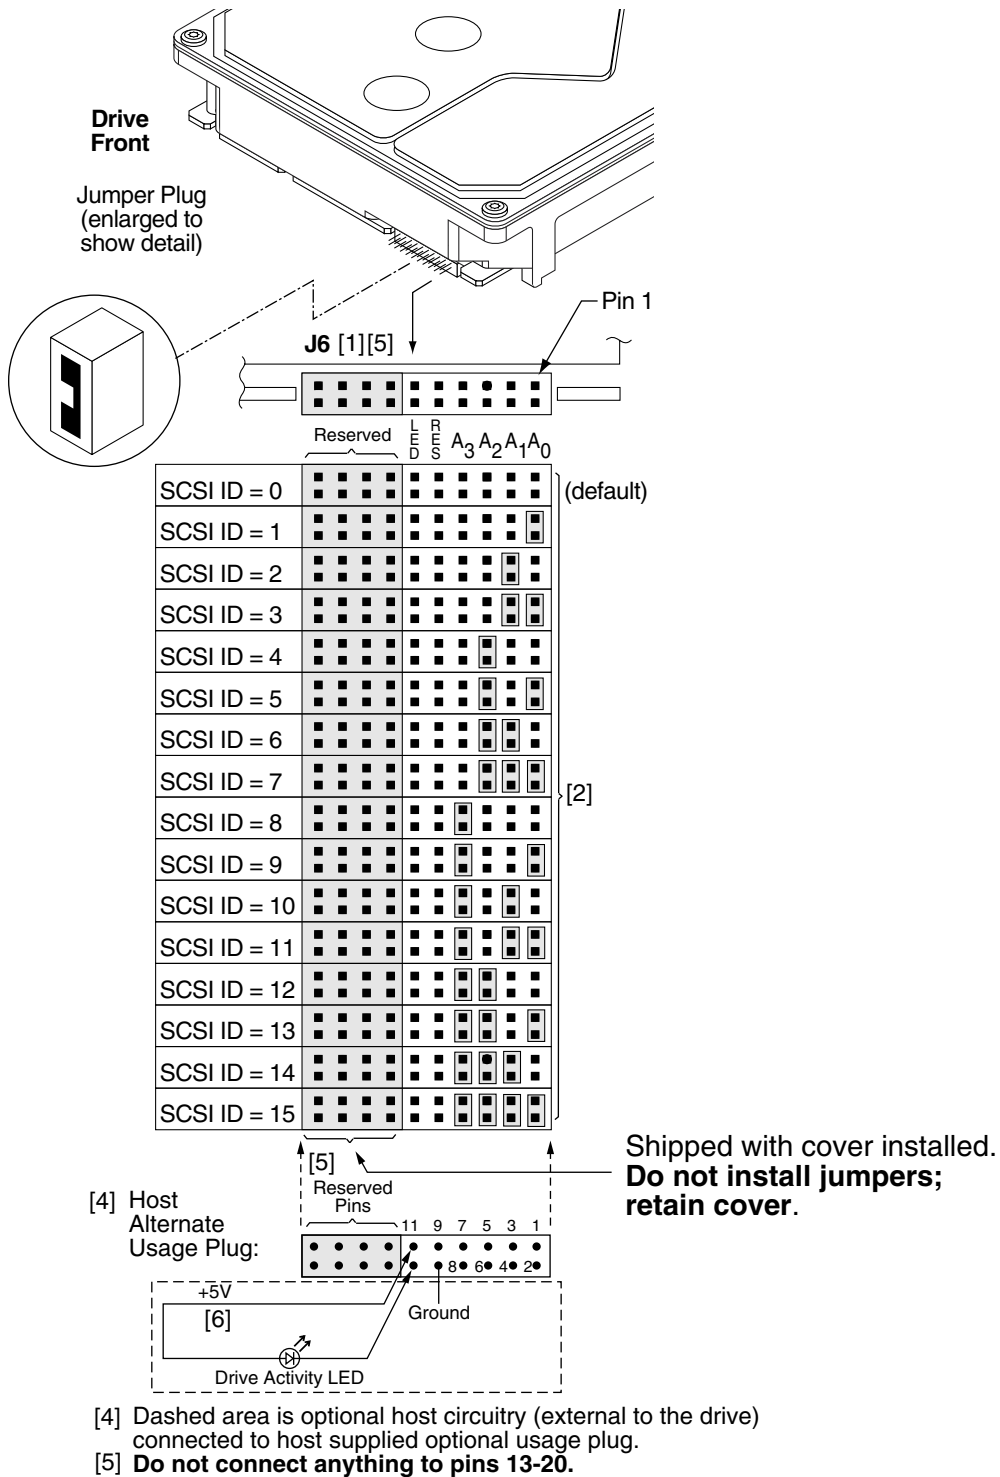
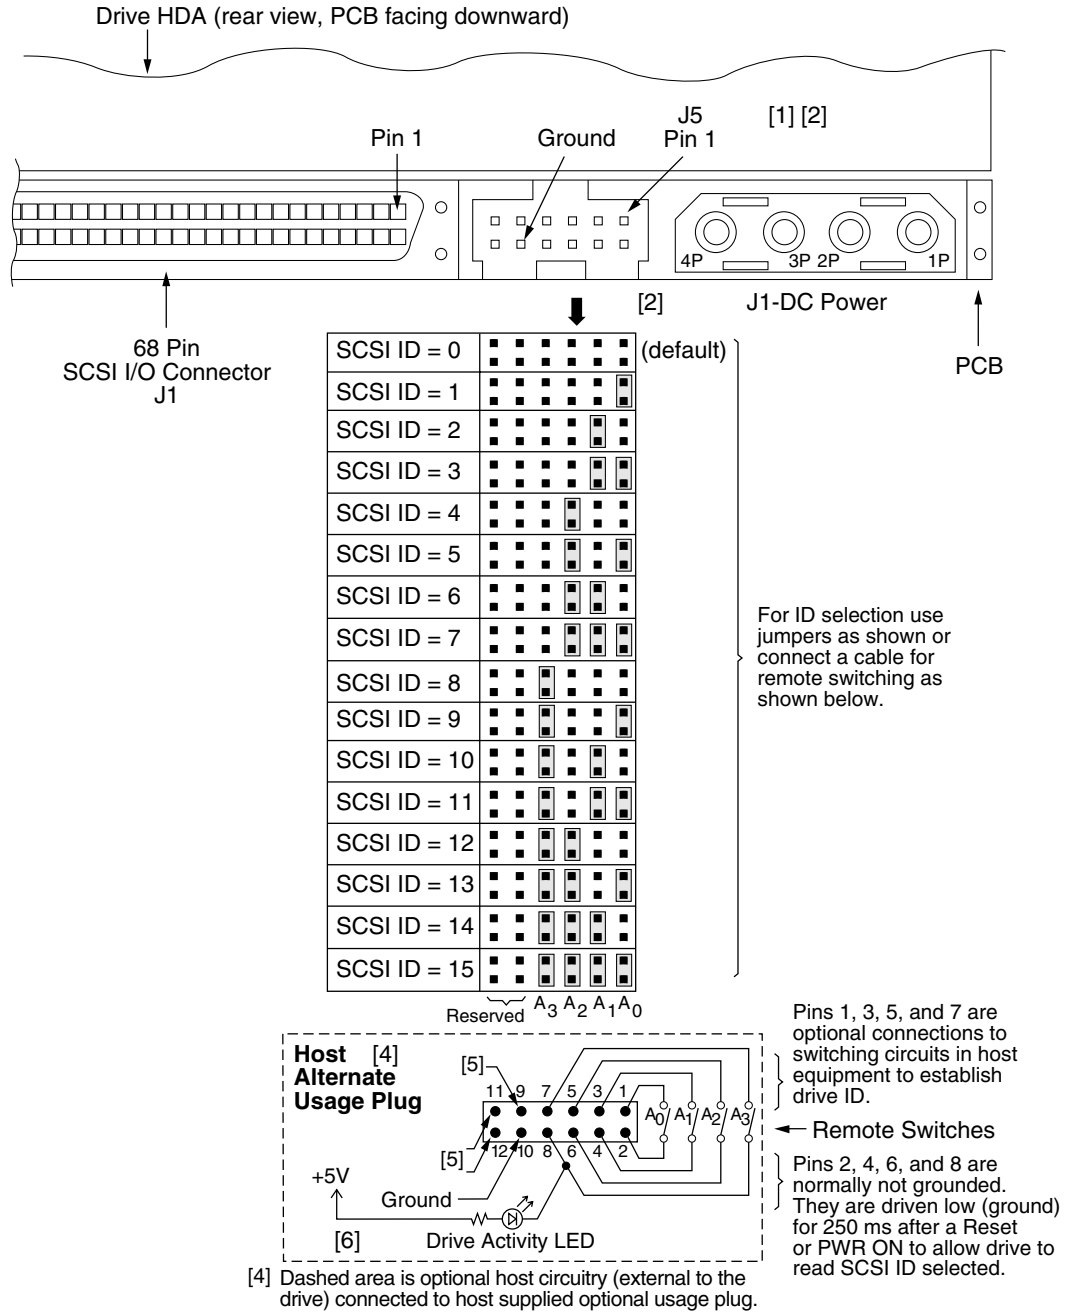
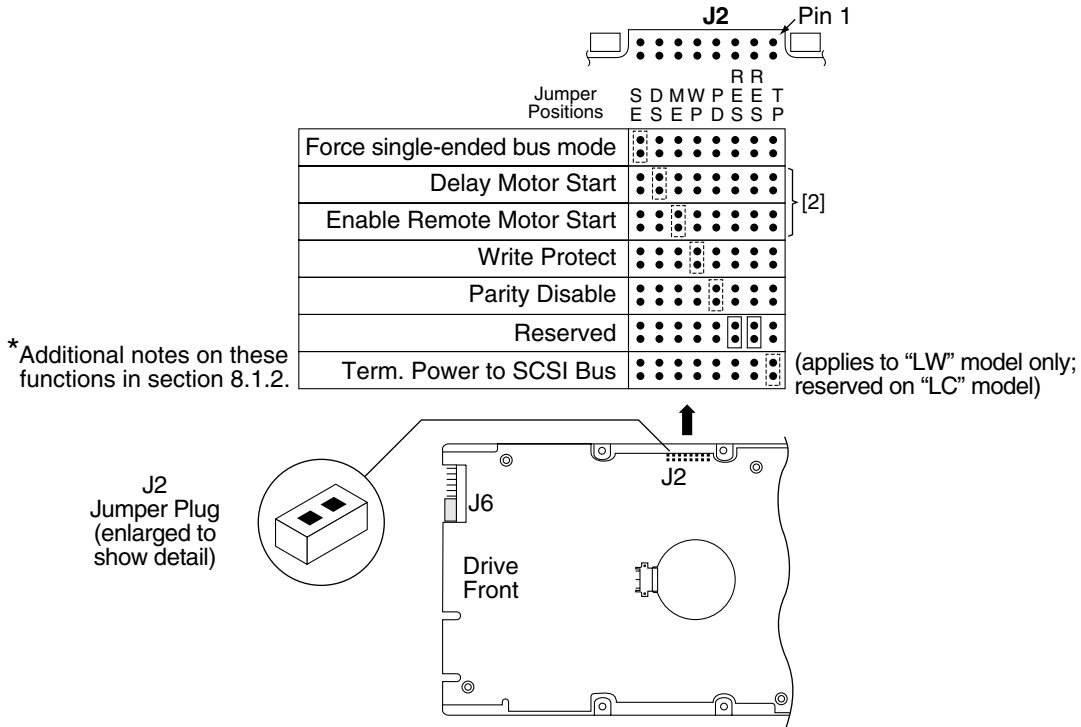

Figure 16. J6 jumper header
Figure 17. J5 jumper header (on LW model only)
Figure 18. J2 option select header
For option jumper locations and definitions refer to Figures 16, 17, and 18. Drive default mode parameters are not normally needed for installation. Refer to Section 9.3.2 for default mode parameters if they are needed.
Figures 16 and 17 show views of the drive ID select jumper connectors. Figure 18 shows the option select jumper connector for all models. Figure 16 shows the drive's J5-Auxiliary jumper connector. Both J5-Auxiliary and J6 have pins for selecting drive ID and for connecting the remote LED cable. Only one or the other should be used, although using both at the same time would not damage the drive. The notes following the figures describe the functions of the various jumper positions on the connectors J2, J5-Auxiliary and J6. See your local sales representative for suggested part number. A bag with the two jumper plug types is shipped with the standard OEM drives.
8.1.1 Notes for figures 16, 17, and 18.
- [6] Connect an external Drive Activity LED to J6 pins 11 and 12 (see Figure 16), or to J5 pin 8 (see Figure 17) and the drives +5V power source, through an appropriately sized current limiting resistor. The drive provides an internal 150 ohm current limiting resistor for the J6 connection.